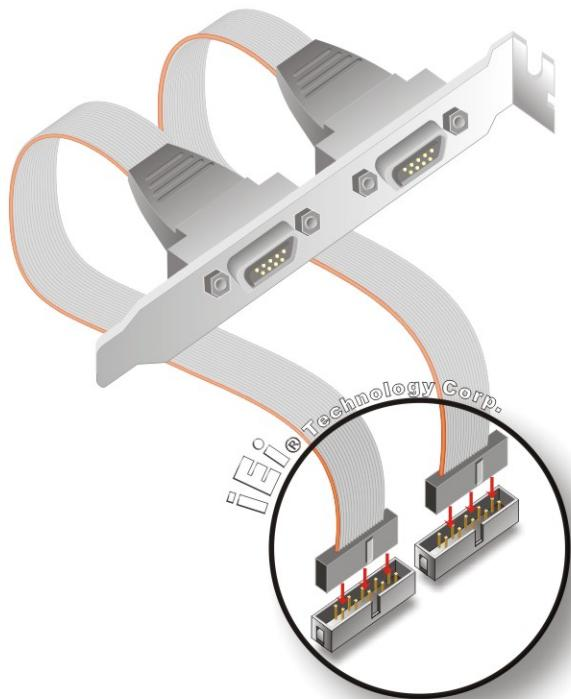

Figure 5-14: Dual RS-232 Cable Installation
Step 2: Insert the cable connector. Insert the connectors into the serial port box headers. See **Figure 5-14**. A key on the front of the cable connectors ensures the connectors can only be installed in one direction.